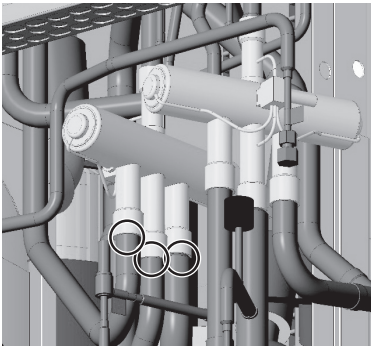

Figure 7
(6) Remove the braze from below the four-way valve (21S4a). (Debrazing: 3 places, Figure 7)